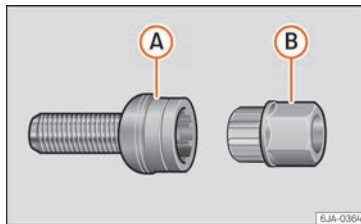

Fig. 62 Anti-theft wheel bolt with adapter.
- Insert the adapter (B) »» **Fig. 62** with its toothed side as far as it will go on the interior toothing of the anti-theft wheel bolt (A) so that only the outer hexagonal is protruding.
- Fit the box spanner as far as it will go over adapter (B).